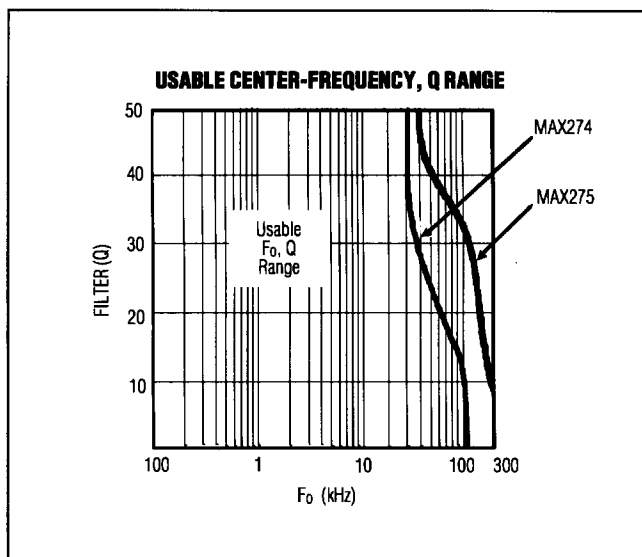

Figure 4. Usable  $F_o$ ,  $Q$  Range. See *Translating  $F_o/Q$  Pairs into Hardware (Resistor Selection)*.
**1. Check all  $F_o/Q$  pairs for realizability.** The MAX274/MAX275 have limits on which  $F_o/Q$  values can be implemented. These limits are bound by finite amplifier gain-bandwidth and amplifier load drive capability (which limit the highest frequency  $F_o$ /highest  $Q_s$ ) as well as amplifier noise pickup and susceptibility to errors caused by stray capacitance (which sets a low-frequency limit on the poles). Refer to Figure 4 to be sure each  $F_o/Q$  pair is within the "realizable" portion of the graph. If filter  $Q_s$  are too high, reduce them by increasing the filter order (that is, increase the number of poles in the overall filter).
High-frequency  $F_o$ s (up to 400kHz) and high  $Q$ s outside of Figure 4's limits are also realizable, but  $F_o$  and  $Q$  will deviate significantly from the ideal. Adjust resistor values by prototyping.